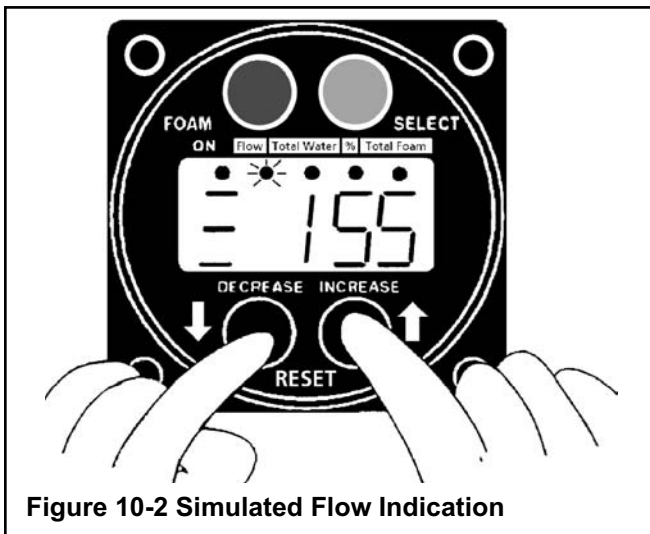

Figure 10-2 Simulated Flow Indication
- Operate the fire truck engine so that hydraulic oil pressure is available. Put the system in "Simulated Flow Mode" by selecting the **FLOW** display and depressing **RESET**, (both UP and DOWN buttons simultaneously). Increase simulated flow by pressing the UP button to permit easier priming (above 250). The display will show ☼ to indicate the simulated flow (See Figure 10-2).